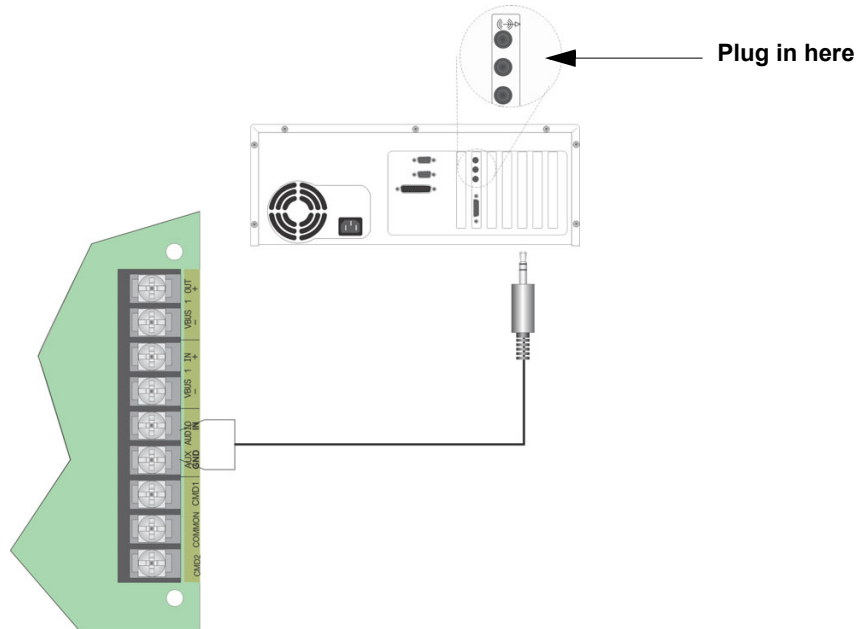

Figure 11-5 Aux Audio Connection for Recording
1. Wire a speaker cable with 1/8" mini plug (Radio Shack Cat. No. 42-2454) to the Aux AUDIO GND and IN terminals. Refer to Figure 11-5 on page 12.
2. Plug the mini plug into the Line Out/Headphone jack on a PC or laptop. See Figure 11-5 on page 12.